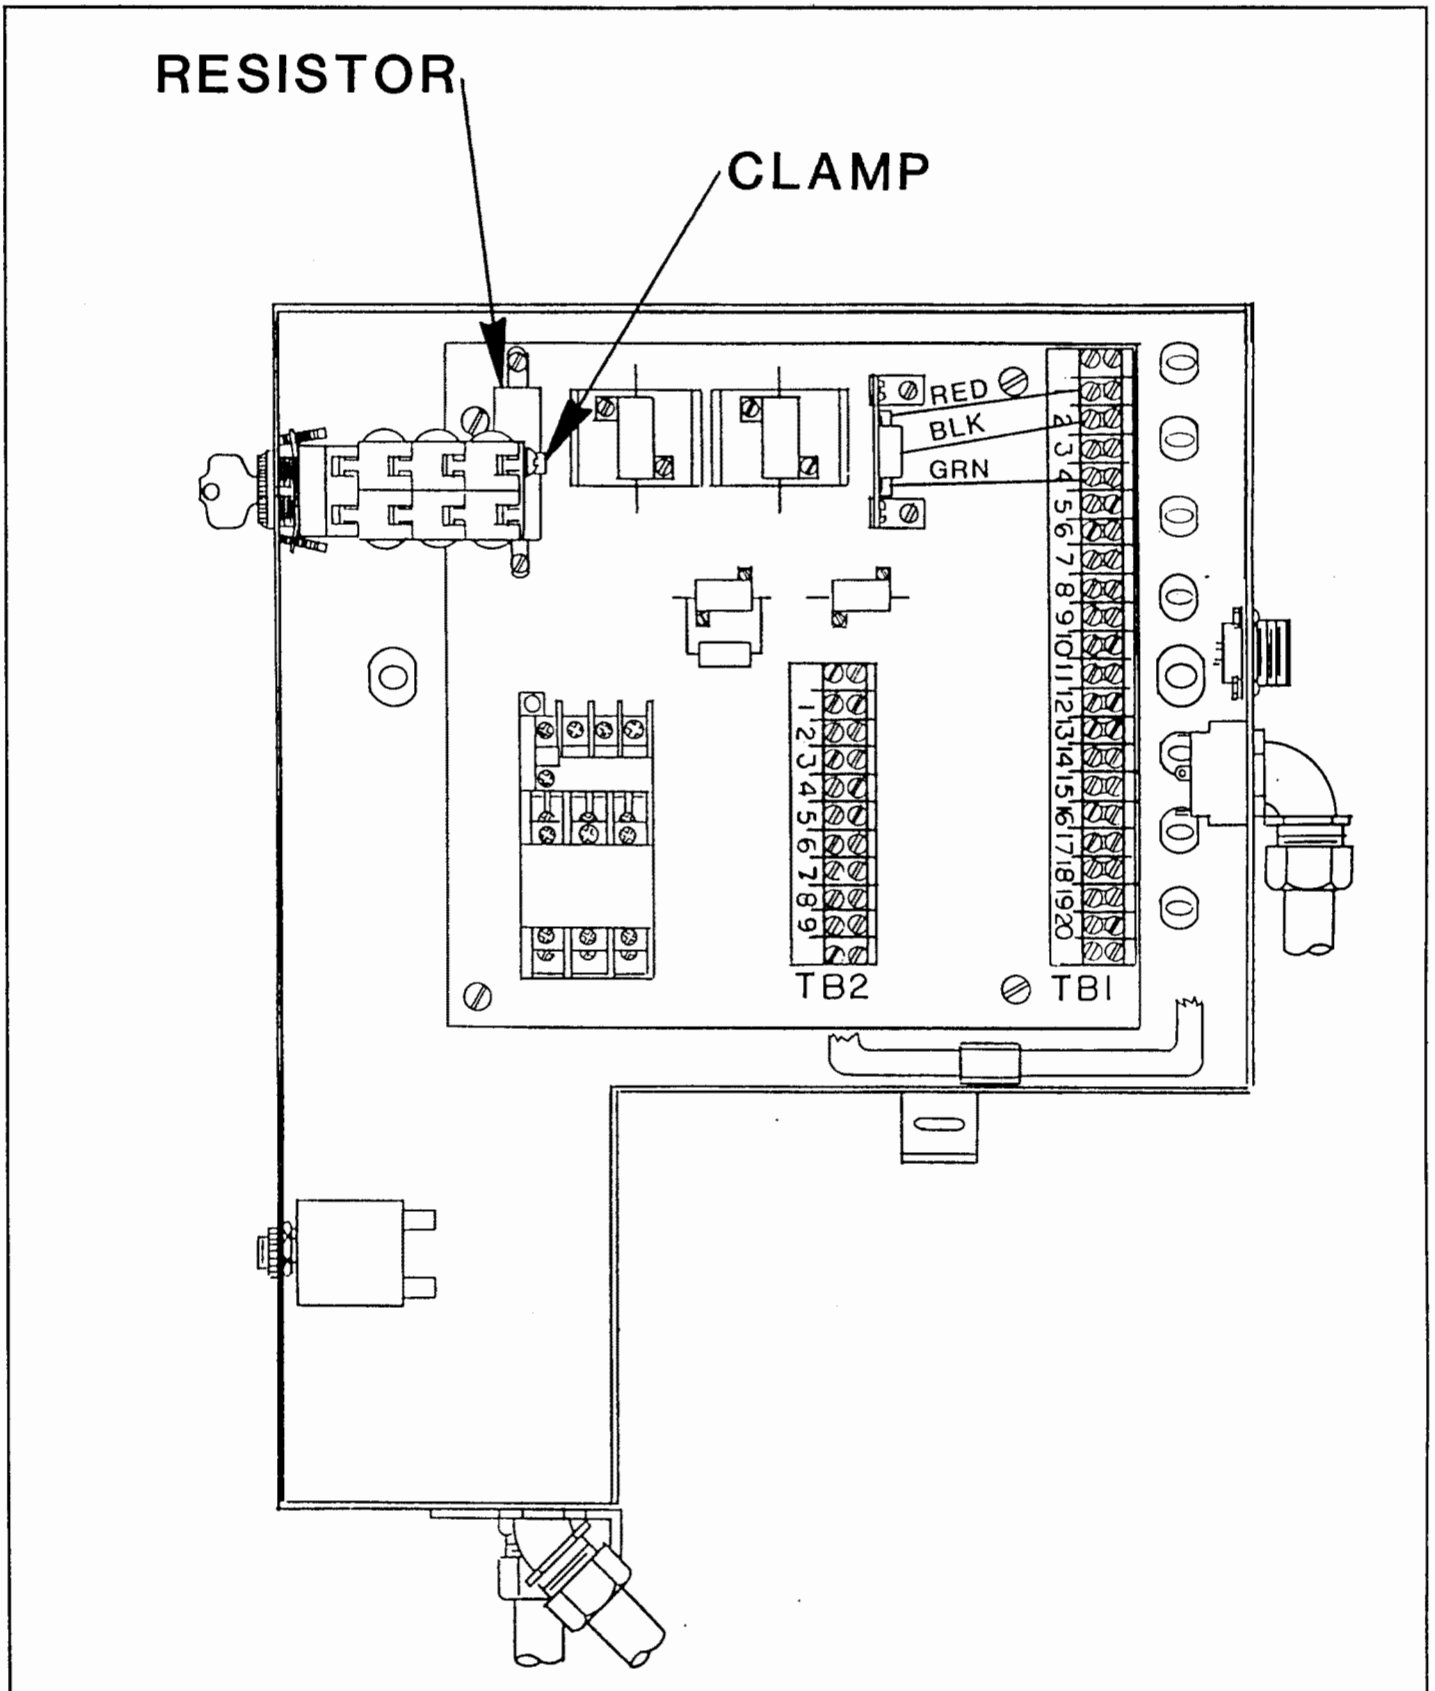

Figure 8.14 A
4. Loosen clamp on lamp resistor and slide resistor to its lowest position. Then tighten clamp. See Figure 8.14 A.